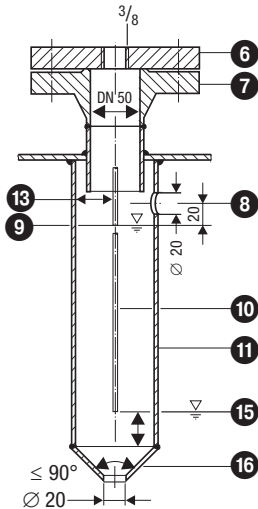

Fig. 5 Protection tube (provided on site) for installation inside the boiler
- The level electrode NRG 16-4 can be installed together with one GESTRA level electrode, one compact level switch or transmitter in a single protection tube or external level pot (inside diameter DN100). **Fig. 5 - 8.** If the level limiting electrode is installed inside the vessel, it must be at least 40 mm away from the upper vent hole.
- Make sure that the air distance between the electrode tip and earth (flange, vessel wall) is not less than 14 mm. **Fig. 5 - 8.**